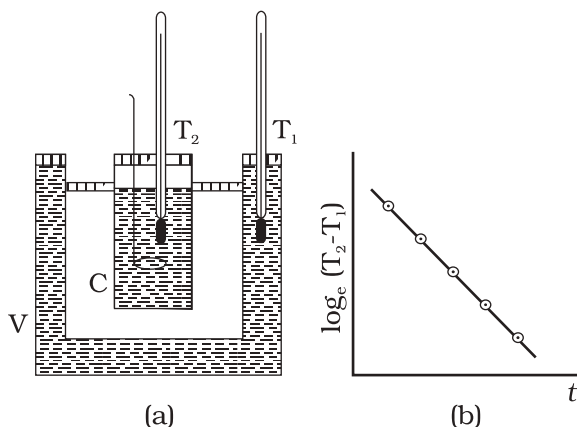

Fig. 11.20 Verification of Newton's Law of cooling.
Newton's law of cooling can be verified with the help of the experimental set-up shown in Fig. 11.20(a). The set-up consists of a double-walled vessel (V) containing water between the two walls. A copper calorimeter (C) containing hot water is placed inside the double-walled vessel. Two thermometers through the corks are used to note the temperatures T_2 of water in calorimeter and T_1 of hot water in between the double walls, respectively. Temperature of hot water in the calorimeter is noted after equal intervals of
time. A graph is plotted between $\log_e (T_2 - T_1)$ [or $\ln(T_2 - T_1)$] and time (t). The nature of the graph is observed to be a straight line having a negative slope as shown in Fig. 11.20(b). This is in support of Eq. 11.22.